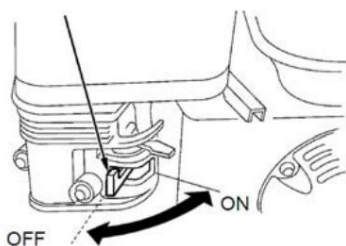

Fig. 17: Open the fuel tap
Step 3: Close the fuel cock (Fig.17).